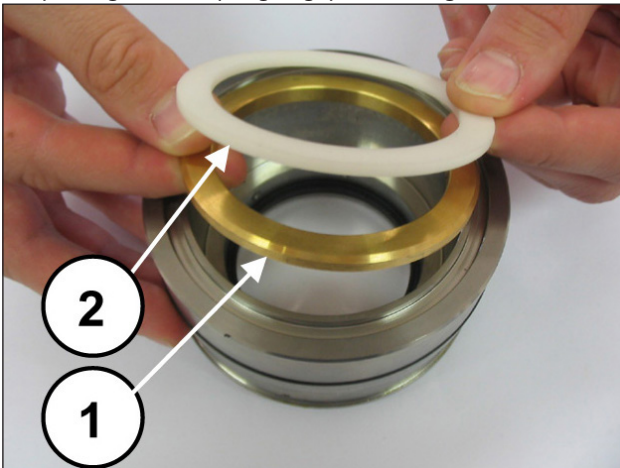
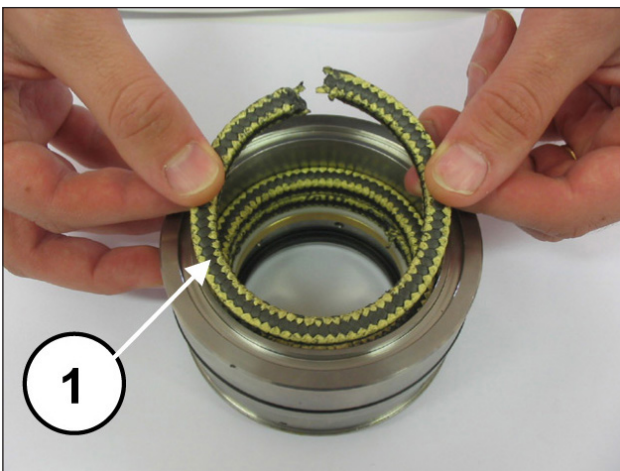
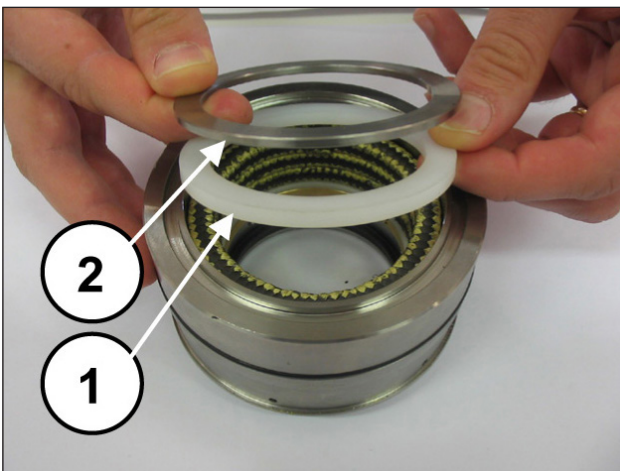

Fig. 201
Fig. 202
Fig. 203
Install the support ring and the back-up ring (pos. ①②, Fig. 201), the three KC sealing rings, making sure the notches are at 120° from each other (pos. ①, Fig. 202), the KC seals scraper ring and the spring ring (pos. ①②, Fig. 203).